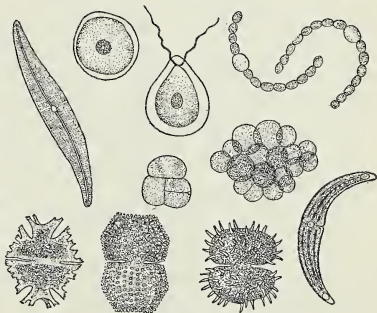

Fig. 334. Plants of one cell.
**Plants of one cell.** In the water where we find the one-celled animals we may find also one-celled plants. Sometimes they form dense green coatings on the top of stagnant pools and on submerged objects. Some of them are bright green, taking the place in the microscopic world of grass and other larger green plants. Some are colorless like our toadstools and mushrooms. Figure 334 shows some of these one-celled plants that you may find. You may see them in stages of division, forming new one-celled plants; for they divide much as one-celled animals do. Some of these microscopic plants move about like the one-celled animals. Others live attached to stones, mud, sticks, or other things under water.